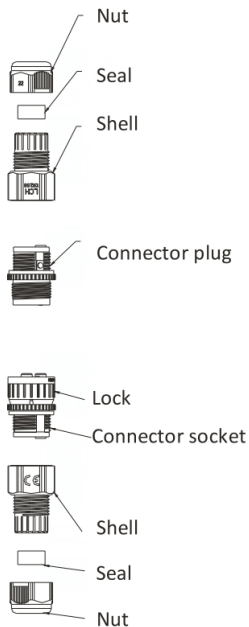

Fig. 1
- Refer to Fig. 1 for each component of the connectors